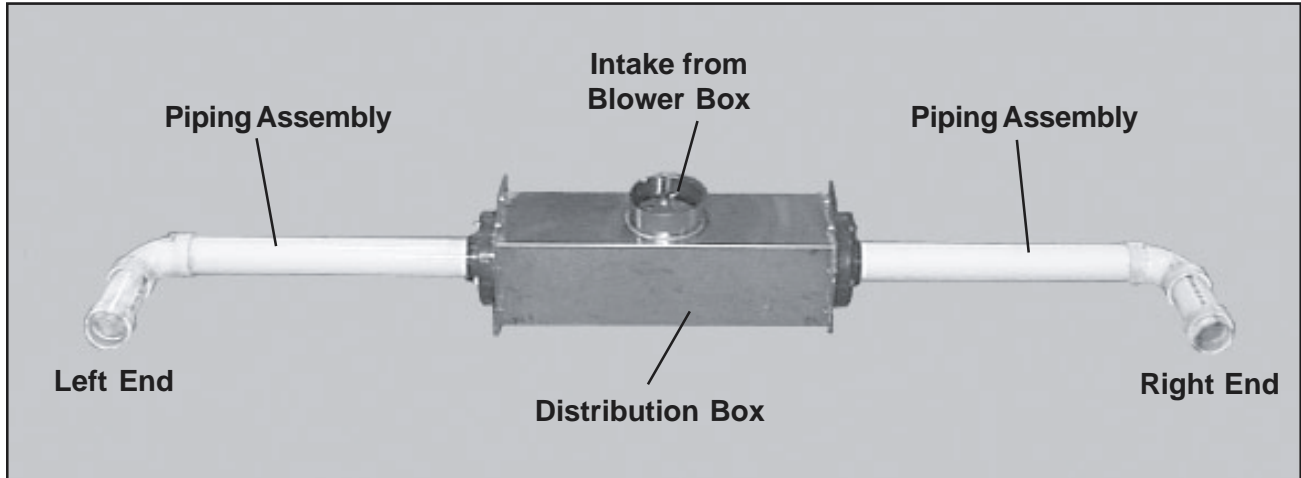

Figure 18. Intake Air Duct (assembled)
The intake air duct (Figure 18) conducts air from the intake blower box to the interior of the Isolation Cubicle. The assembly is symmetrical and the pipes and fittings on each side are identical. The overall width of the assembly depends on the dimensions of the cubicle.
Note: Refer to Figure 18 and note the orientation of the piping assemblies to the distribution box. The short lengths of pipe (with the male threaded couplings) **MUST** be at 90° angles to the intake from the blower box. In the final assembly, the intake will be horizontal and the threaded couplings should point straight down.
3. Pass the threaded coupling on the right end of the intake duct assembly down through the large hole in the right panel (Figures 18 & 34).